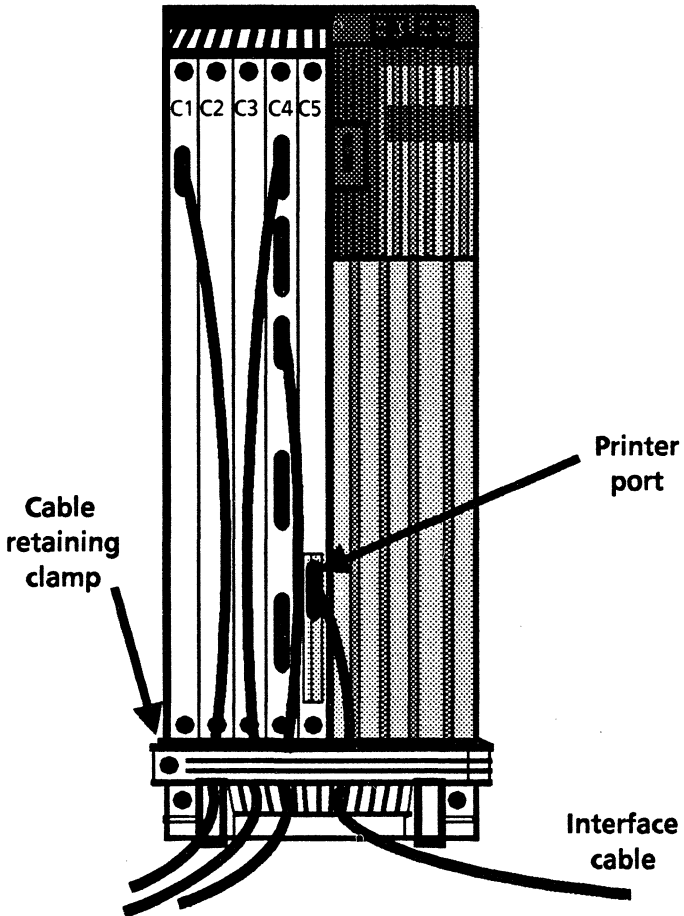

Figure 2-9 6085 interface cable connection
3. Attach the cable connector to the "Printer" port on the C5 shield (Figure 2-9). Tighten the two screws to secure the connector.